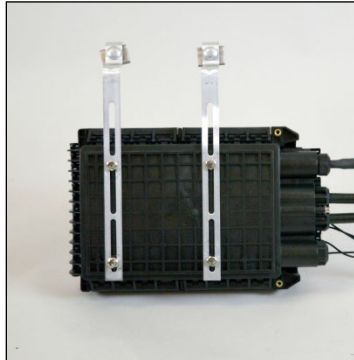

Figure 8
4. Attach the tap brackets using the included mounting bolts on the back of the FSDC-G (Figure 8).